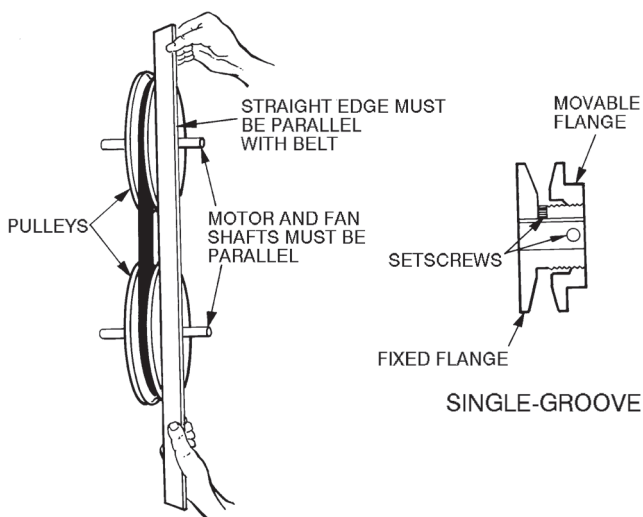

Fig. 7 — Fan Pulley Adjustments
3. Loosen movable pulley flange setscrew (Fig. 7).
Shut off unit power supply. Lock out power supply and tag disconnect locations. Loosen fan motor pulley setscrews and slide fan pulley along fan shaft. Make angular alignment by loosening motor from mounting bracket (see Fig. 7). Check alignment with a straightedge.